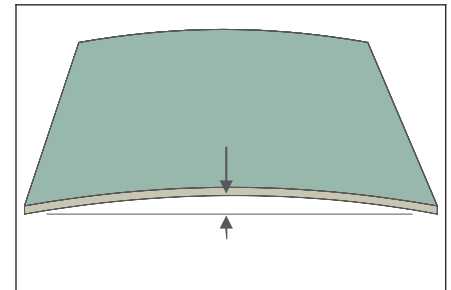

Figure 1 Check edge deflection for maximum wrap.
1. Check the deflection to determine if rework is needed. (See Figure 1.)